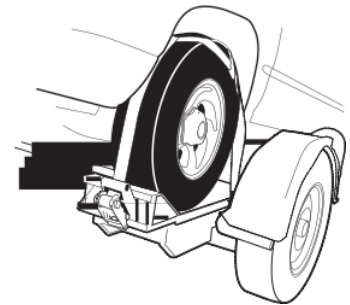

Figure 10
- ❑ Route the tire strap behind the tube and through the slot in the ratchet spool. Pull about 6 inches of the tire strap through the ratchet spool. Keeping the strap evenly over the tire, operate the ratchet until the strap is tight. (Figure 10) Your vehicle-in-tow **tires are too big** if 6 inches of the tires strap will not pull through the ratchet spool. **DO NOT** put a vehicle-in-tow that has tires that are too big on the tow dolly.